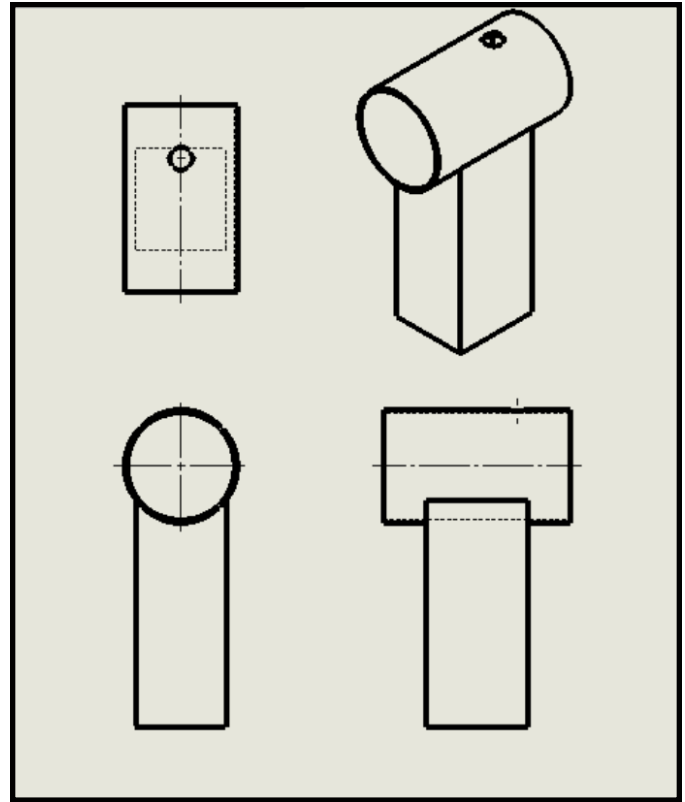

Figure 3.18 - Quiz - Object One
1. Does the drawing in figure 3.18 have the correct marking and lines? Hint: First check visible line, then hidden lines, and then centerline or marks or for each view.